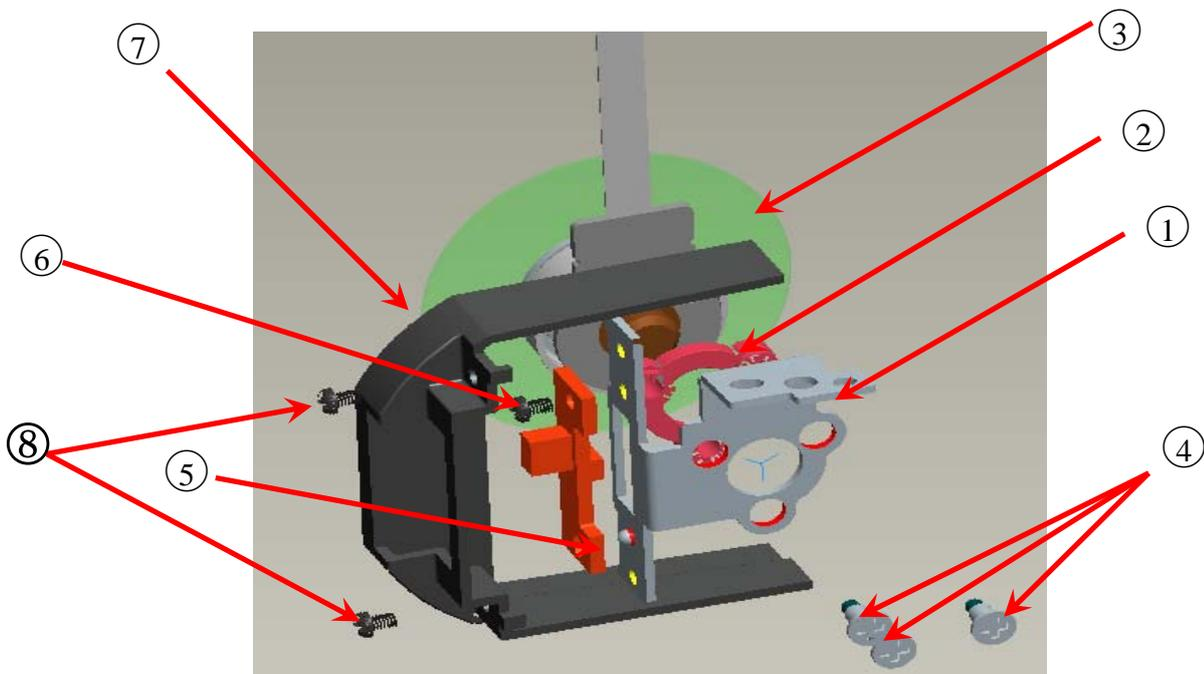
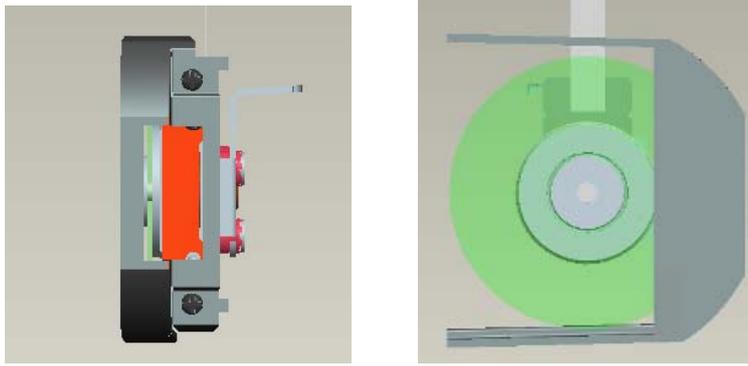

Fig. 3-1
Fig. 3-2
3.1 CW Module Assembly Sequence as blow (Fig. 3-1, Fig. 3-2):